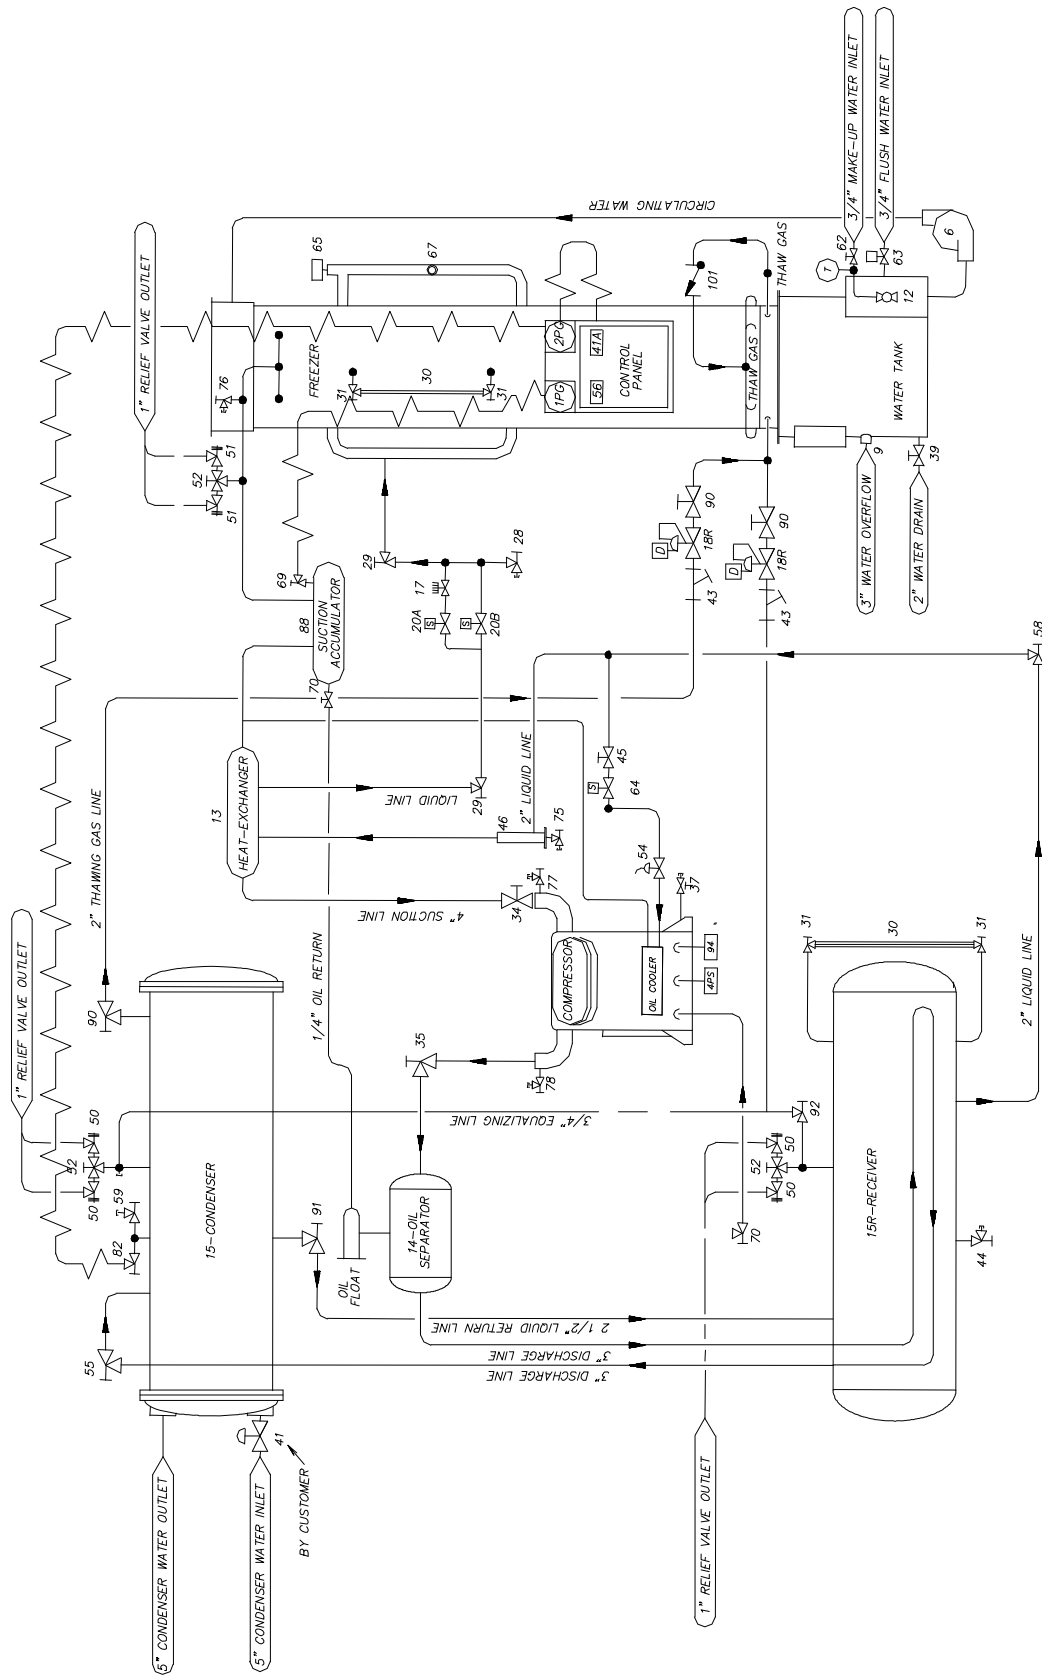

FIGURE 4-1
Operating Features. Your package Vogt Ice[®] machine is an efficient ice producing plant. If installed and maintained properly, it will give many years of operation with a minimum amount of repairs. Refer to piping schematic, FIGURE 4-1 to identify component parts while following the information and instructions in this manual.
Refrigeration System Review. The refrigeration system uses R-22 or R-404a refrigerant. Following the piping schematic (Figure 4-1), you will see that during the machine's freeze cycle, the compressor discharge gas goes through the oil separator (14) to remove any oil present in the discharge gas and return the oil to the suction accumulator (88). From the oil separator, the discharge gas continues through a heat coil in the lower part of the condenser/receiver (15). It is then discharged into the condenser and condensed into a liquid by the removal of heat by water passing through the condenser tubes. A reservoir of liquid refrigerant is accumulated in the receiver and is required for thawing purposes. Liquid from the receiver flows through the filter/drier (46), and the heat exchanger (13), to the liquid feed solenoid valve (20A), which opens and closes by action of the capacitive level probe (65). The liquid is then expanded through the hand expansion valve (17) and into the evaporator (2) (freezer). The liquid is also fed through a bypass line and the constant feed solenoid valve (20B), which is open throughout the freeze cycle. The cold wet refrigerant that is fed through these valves floods the evaporator and is in contact with the outside of the ice making tubes which water is being circulated through. The heat contained in the water passes through the wall of the tubes, lowering the temperature of the water and causing it to freeze and form a long tube of ice that adheres to the inside of the freezer tubes. Since the purest water freezes first, the circulating water continues to wash the dissolved solids down into the sump area of the water tank (7). The flushing valve (63) helps to rid the water tank of increased dissolved solids by flushing them out the overflow during the harvest (thawing) period.